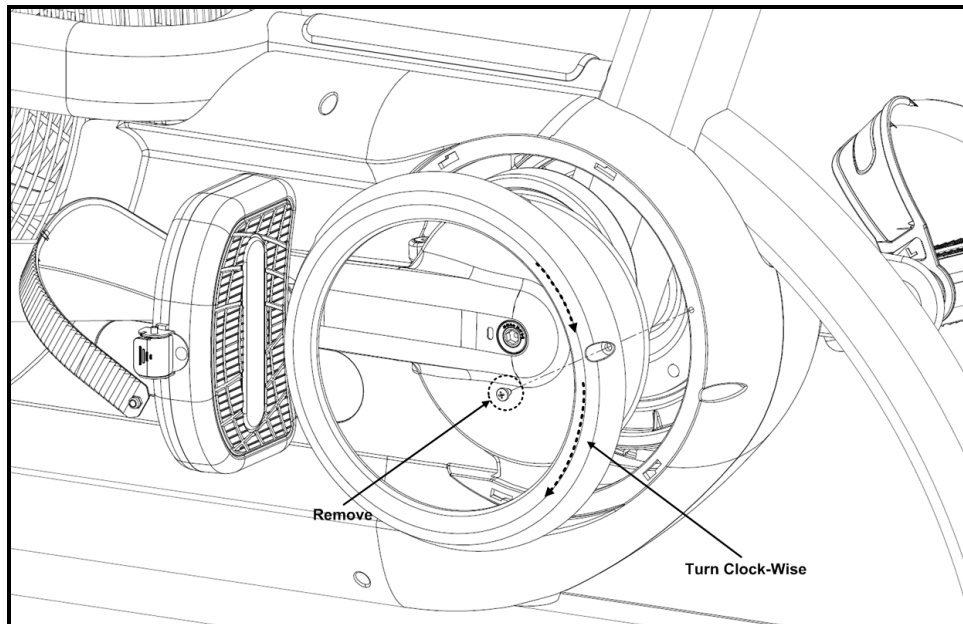

Fig. 1
1. Remove the crank ring shroud (Fig. 1) from the left & right large base shrouds by extracting the lone phillips head screws that hold each ring in place and then turn each of the rings clock-wise to unlock and pull off.